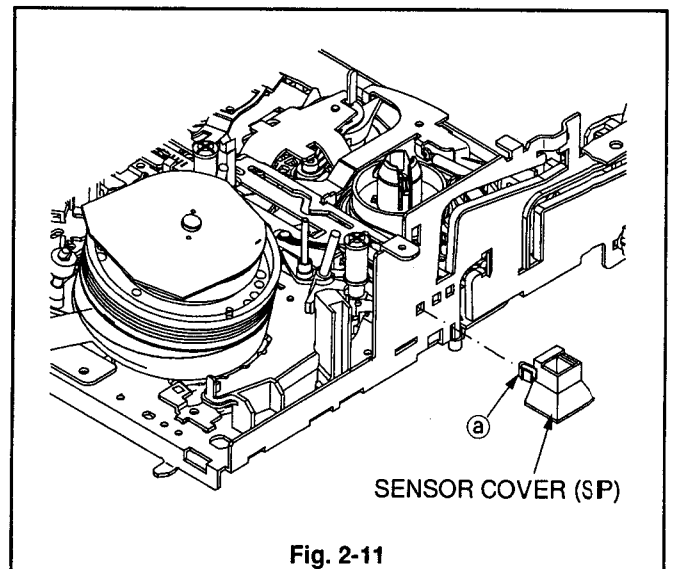

Fig. 2-11
1. Remove the catch (a) of the SENSOR COVER (SP) shown in the Fig. 2-11 to remove the SENSOR COVER (SP).
1. Install the SENSOR COVER (SP) shown in the Fig. 2-11.